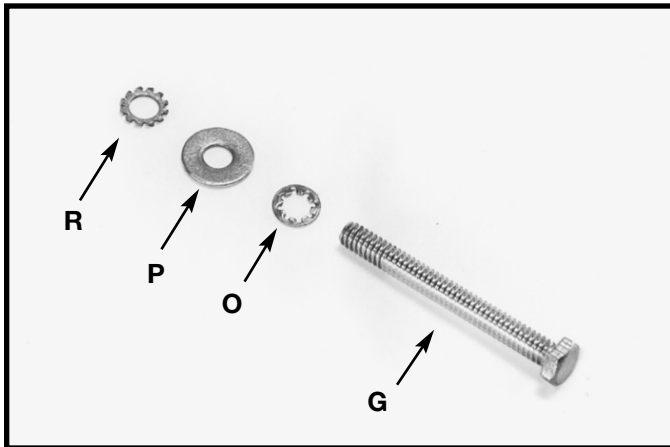

Fig. 10
3. Locate the 1/4-20x2 1/2" hex head screw (G) Fig. 10. Place the 1/4" internal tooth lockwasher (O) M6.4 flat washer (P) and the 1/4" external tooth lockwasher (R) on the screw (G).